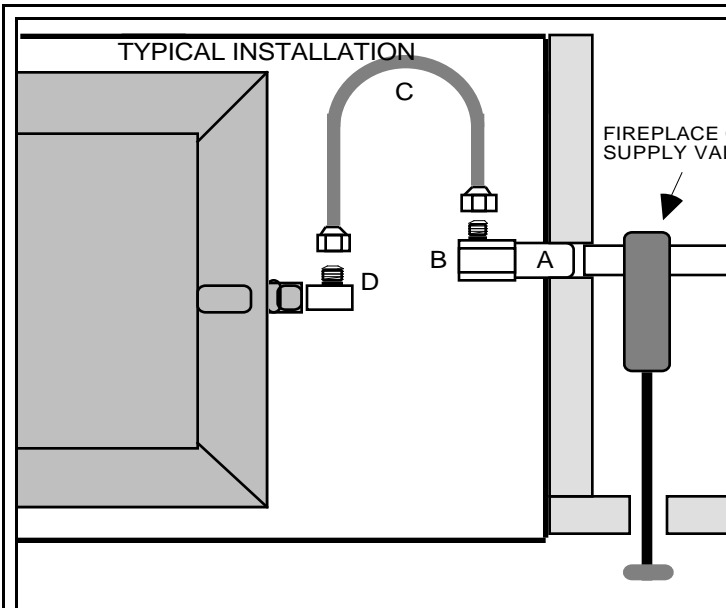

Figure 12
1. Apply pipe compound to threaded end of **GAS SUPPLY PIPE (A)**. Thread **1/2" FIP x 3/8" FLARE ELBOW (B)** onto **GAS SUPPLY PIPE (A)** and wrench tighten. See Figure 12.
2. With **BURNER PAN** inside firebox at previously marked position, thread (without pipe compound) one end of the **ALUMINUM CONNECTOR TUBE (C)** to the **1/2" FIP x 3/8" FLARE ELBOW (B)** and wrench tighten.
3. Carefully bending **ALUMINUM CONNECTOR TUBE (C)**, align and connect, without pipe compound, to the **FLARED BURNER INPUT FITTING (D)**. Wrench tighten. Figure 12